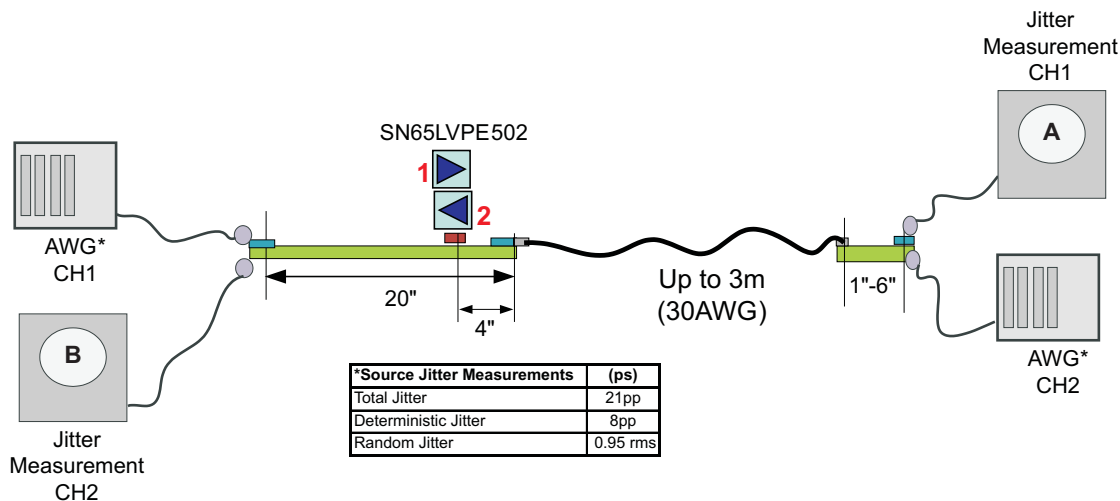

Figure 8. Jitter Measurement Setup
(1) Includes Rj at 10⁻¹²(2) Measured at the end of reference channel in Figure 8 with K28.5 pattern, V_{ID}=1000mVpp, 5Gbps, –3.5dB DE from source.
(3) UI = 200ps
(4) Rj calculated as 14.069 times the RMS random jitter for 10⁻¹² BER